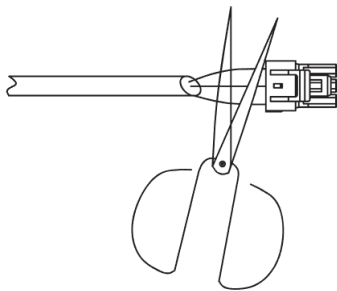

Fig. 45 —Shearing Outdoor Connector
1. Cut the connector on the outdoor unit side as shown in Fig 45.